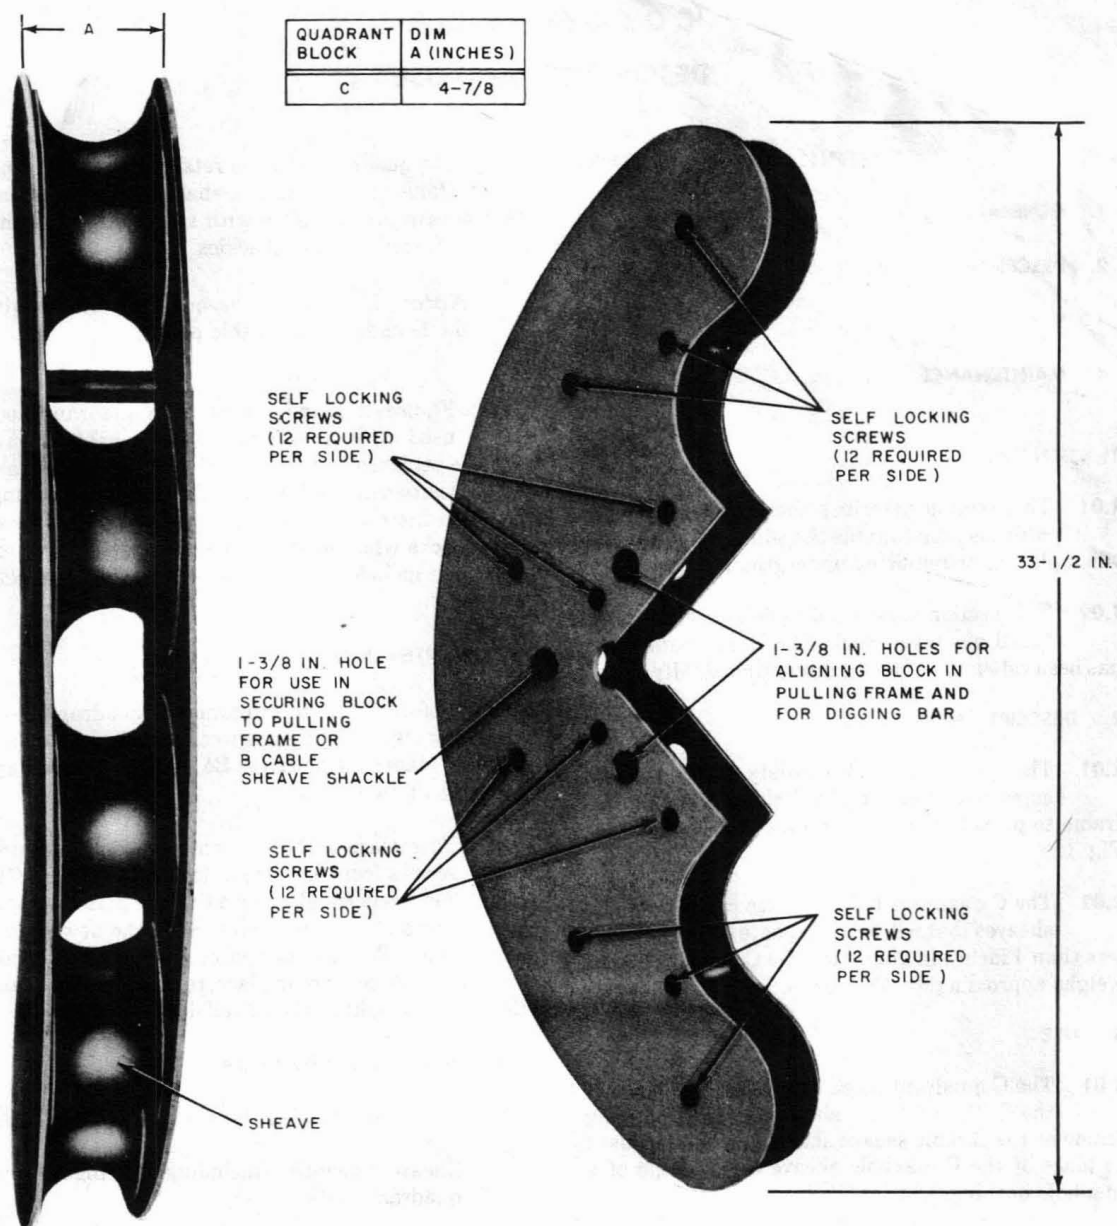

Fig. 1—C Quadrant Block
2.01 The quadrant block consists of six sheaves supported in an arc of a circle by an aluminum frame to provide a bending radius of 24 inches. See Fig. 1.